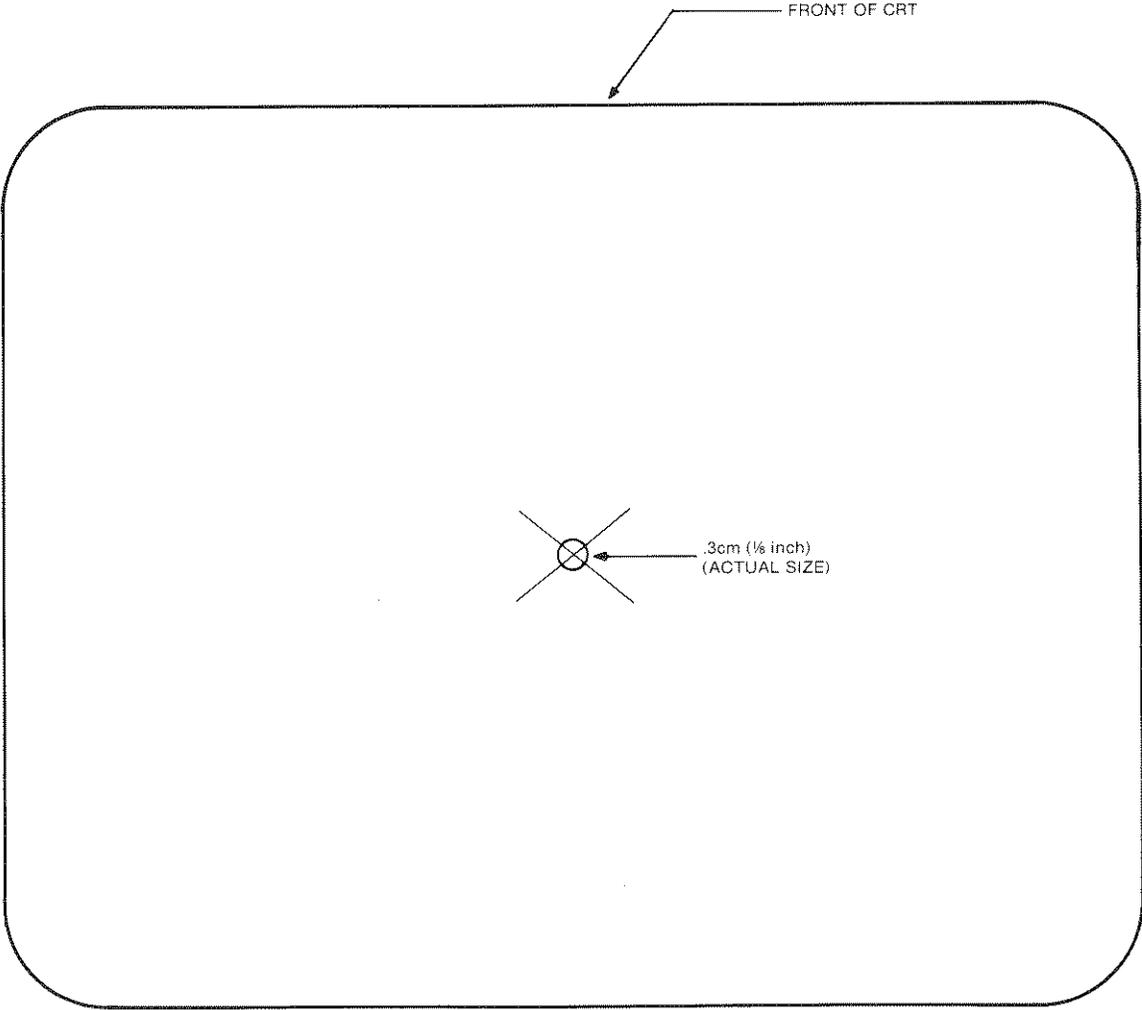

Figure 10-2. Yoke Centering Adjustment.
5. While holding a flexible straight edge from the lower-left corner to the upper-right corner of the CRT (facing the CRT), make a mark about one inch long with a water soluble felt pen across the center of the CRT (figure 10-2).
6. Repeat the above step for the upper-left corner and the lower-right corner forming an "X" in the center of the CRT (figure 10-2).
- 10. The dot should appear within a 0.3 cm (1/8 inch) radius of the intersection of the two lines. If this does not occur, align the dot using the centering rings on the yoke. See figure 10-2.